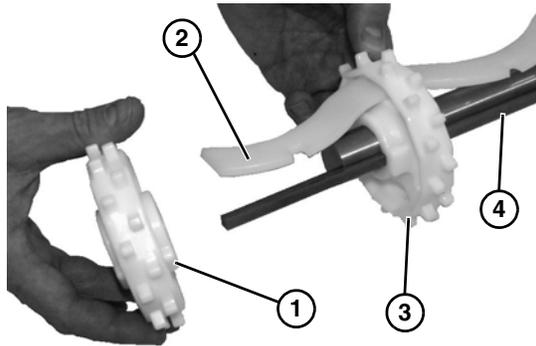

Figure 33
- Slide entire sprocket assembly slightly outward, and remove the first sprocket (**Figure 33, item 1**) off the drive spindle and alignment bar. (**Figure 33, item 2**).
- Remove remaining sprockets (**Figure 33, item 3**) off the alignment bar as you slide entire assembly off the drive spindle (**Figure 33, item 4**).